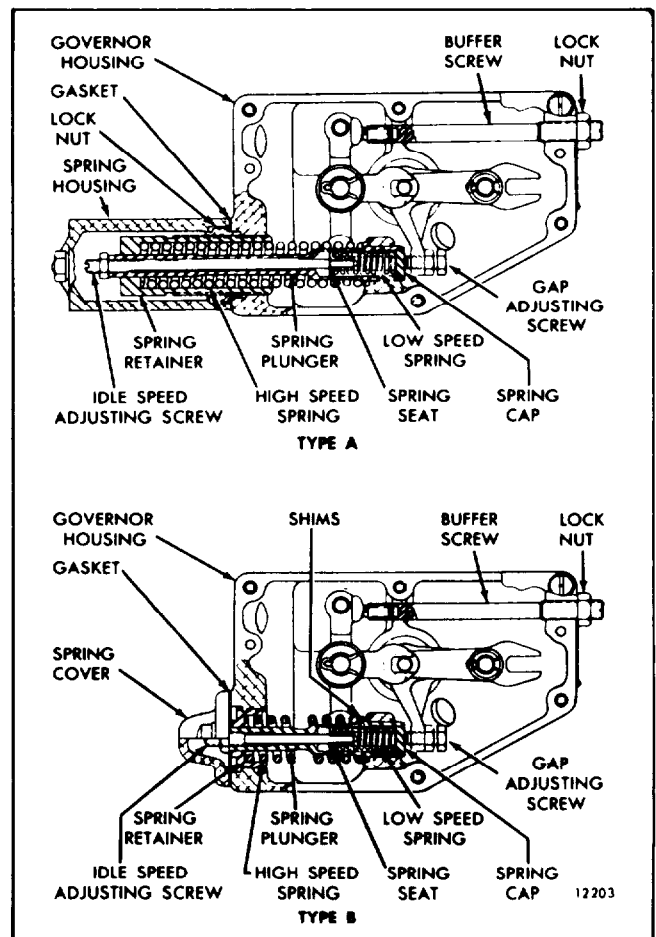

Fig. 7 - Governor Spring Assemblies
**TYPE A GOVERNOR SPRINGS (Fig. 7):**
**TYPE B GOVERNOR SPRINGS (Fig. 7):**